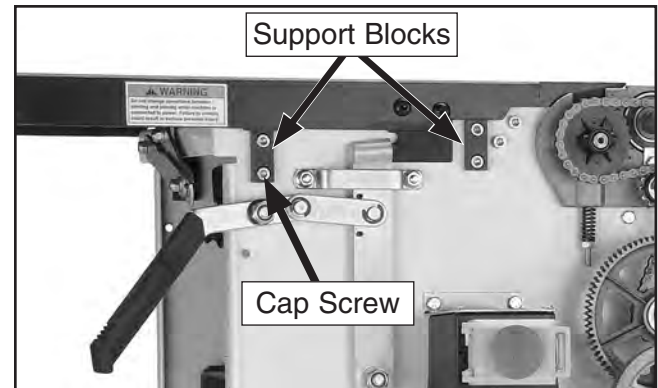

Figure 60. Location of front outfeed table support blocks.
1. Loosen the cap screws on both outfeed table support blocks (see **Figure 60**).